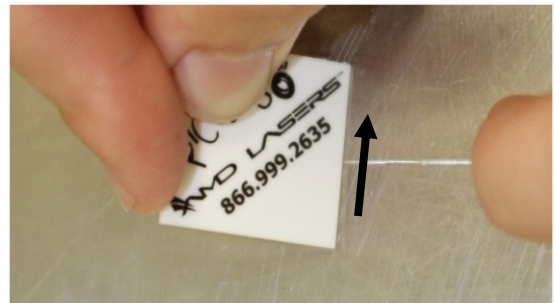
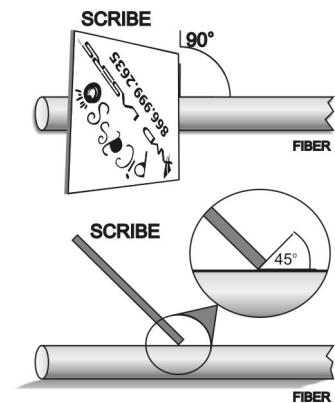

FIGURE 12
FIGURE 13
5. Use the ceramic scribe to lightly scratch the end of the fiber. Place the fiber against a flat surface. Position the edge of the scribe approximately ¼ inch (0.6 cm) from the end of the fiber, and make a gentle scratch perpendicularly across the fiber (FIGURE 12), scribing (scratching) the surface at a 45 degree angle with the edge of the scribe. Make sure that the edge of the scribe is always perpendicular to the fiber during cleave/scrubbing (FIGURE 13).